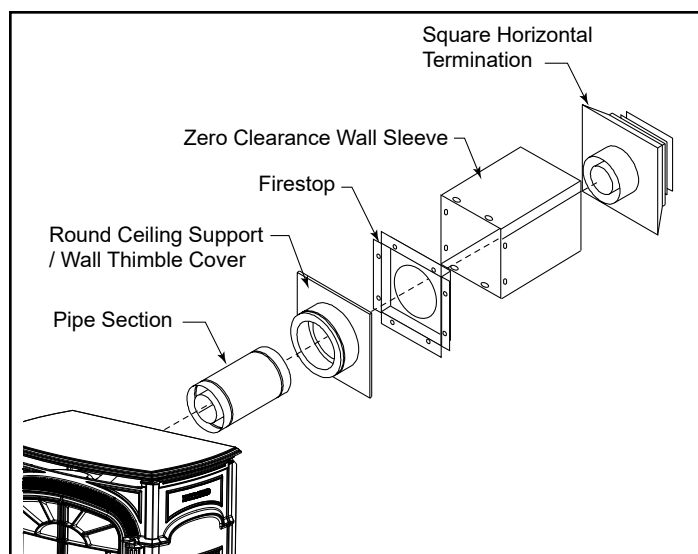

Figure 3.17
- Horizontal Termination, Figures 3.17 & 3.18.